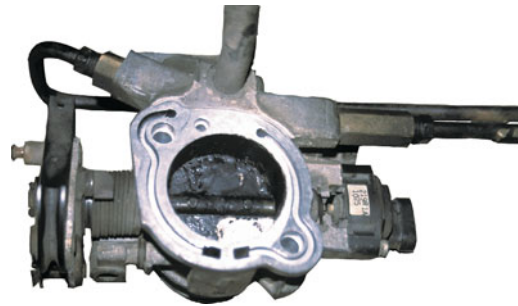

FIGURE 23-28 To thoroughly clean a throttle body, it is sometimes best to remove it from the vehicle.
5. **Clean the throttle plate and IAC passages.** Doing this service alone on most late-model engines will show a manifold vacuum increase of up to 2 in. Hg. Stop the engine and clean the areas as needed, then use a handheld fuel injector connected in parallel with the pressure hose, along with a pulser to allow cleaning of the throttle plates with the same chemical as injectors are running on. ● **SEE FIGURE 23-28.** This works well, as air is drawn into IAC passages on a running engine and will clean the passages without IAC removal.